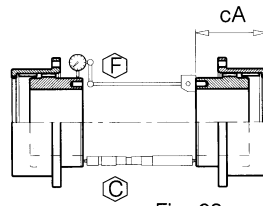
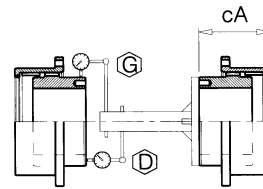

Fig. 03
Fig. 04
- For gear couplings with tubular spacer or with floating shaft, check the head parallelism between the hubs reference surfaces, using an inside micrometer positioned like \mathbb{C} in FIG 03 or a comparator positioned like \mathbb{D} in FIG 04 or \mathbb{E} in FIG 05. The max difference between two values at 180° is ΔA . The hub eccentricity is measured by a comparator, positioned like \mathbb{F} in FIG 03, \mathbb{G} in FIG 04 or \mathbb{H} in FIG 05. The max difference is ΔP . Gear couplings with spacer, having a long distance between the gear teeth, require an alignment accuracy lower than the normal gear couplings do.